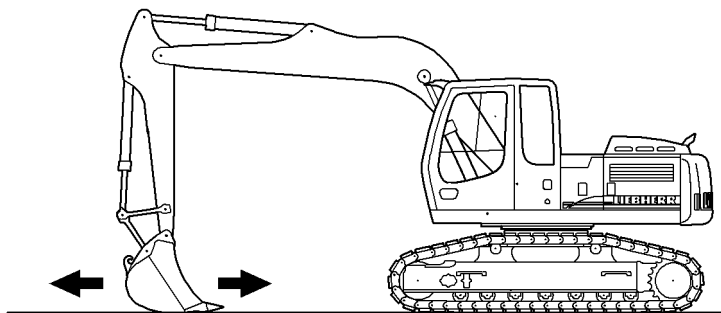

Fig. 3-129 Skimming
- ▶ To skim with a backhoe stick bucket, lay this on the ground (see Fig. 3-129) and move the stick slowly forwards and backwards. Move the boom steadily up and down while the stick is moving.